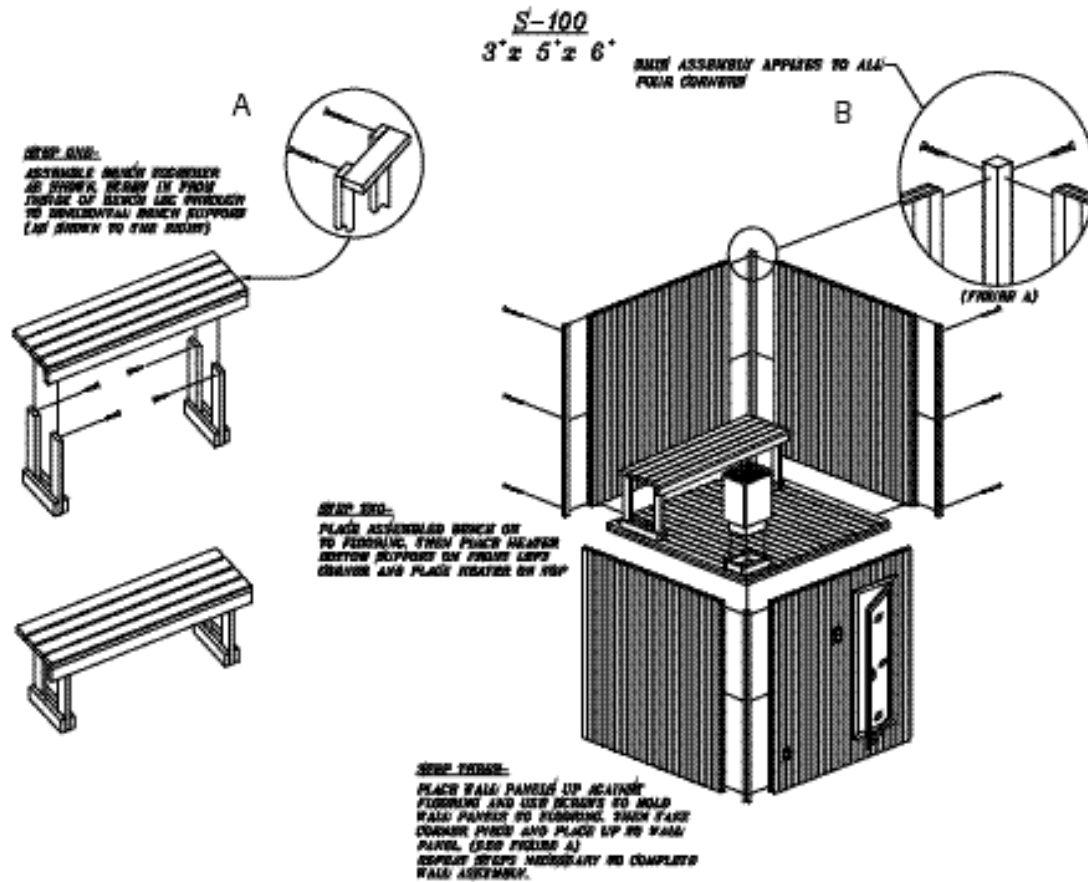
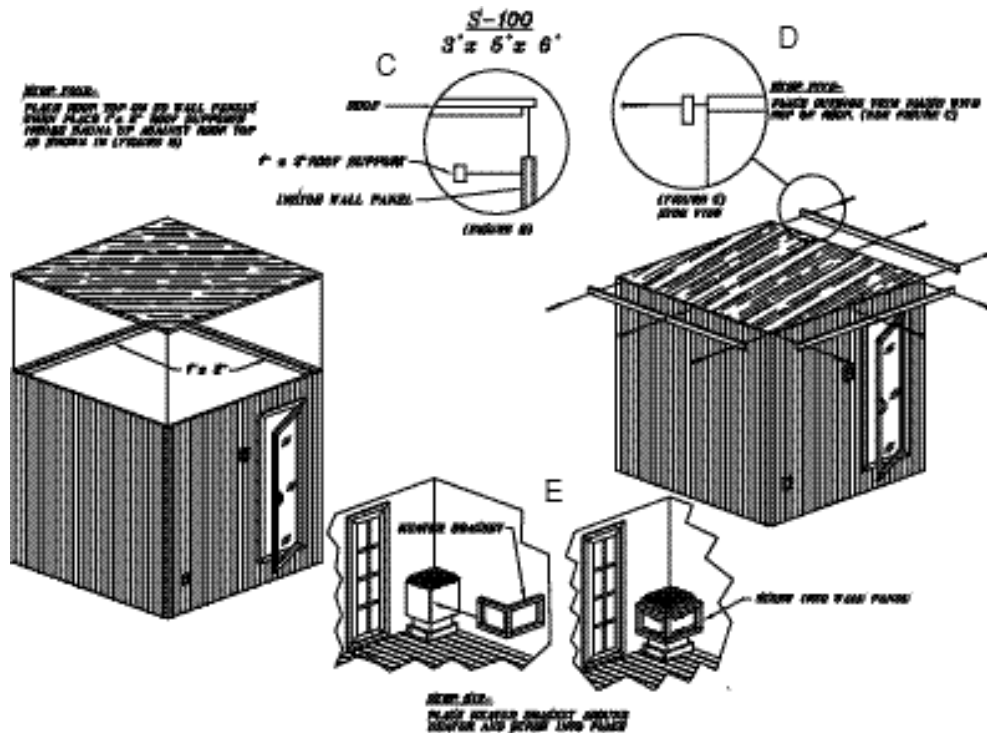

Figure 9A. S-100 Sauna Step 1 through Step 3.
Figure 9B. S-100 Sauna Step 4 through Step 6.
**NOTE:** The following steps deal with **Figure 9A**.
1. Assemble the bench. Screw the legs into the underside cross-support of the bench (A) After assembling the bench, place the bench on the wooden flooring of the sauna.
3. Place the wall panels against the flooring and attach the panels (with the provided screws) to the flooring. Take the corner piece and attach it to the wall panels (B). Repeat these steps, as necessary, to complete the wall assembly.
**NOTE:** The following steps deal with **Figure 9B**.
4. Place roof top panel onto the wall panel assembly. Place the 1"x2" roof supports, inside the sauna, up against the roof top (C).
5. Place the outside trim piece(s) flush with top of the roof (D).
6. Place the heater bracket around the heater and secure it in place (E).